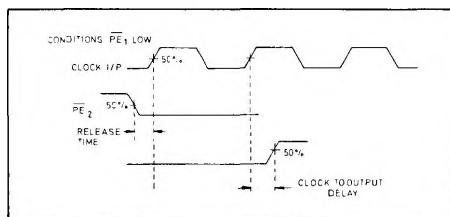

Fig. 4 Release timing diagram
- Release time is defined as the minimum time that can elapse between a H→L transition of a control input and the next L→H clock pulse transition to ensure that the ÷9 mode is forced by that clock pulse (see Fig. 4).